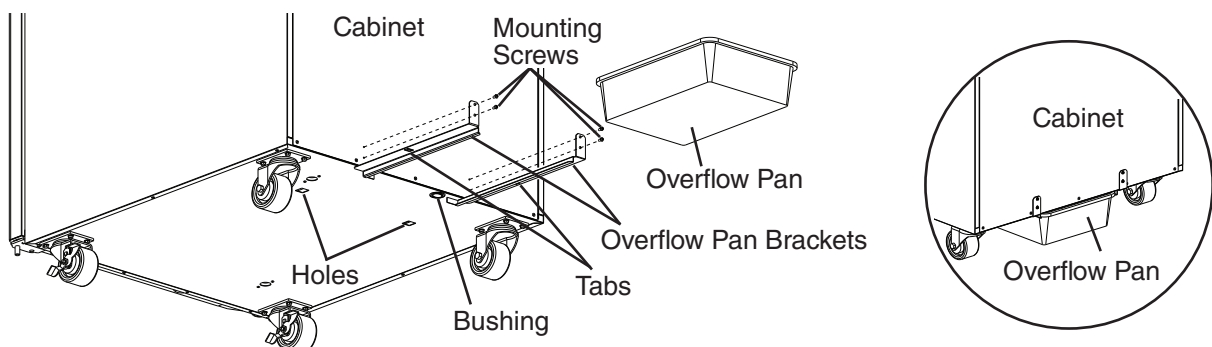

Fig. 2
- 1) Attach the overflow pan brackets by engaging the tabs on the brackets through the holes in the bottom of the appliance and securing with the 4 mounting screws provided. See Fig. 2.